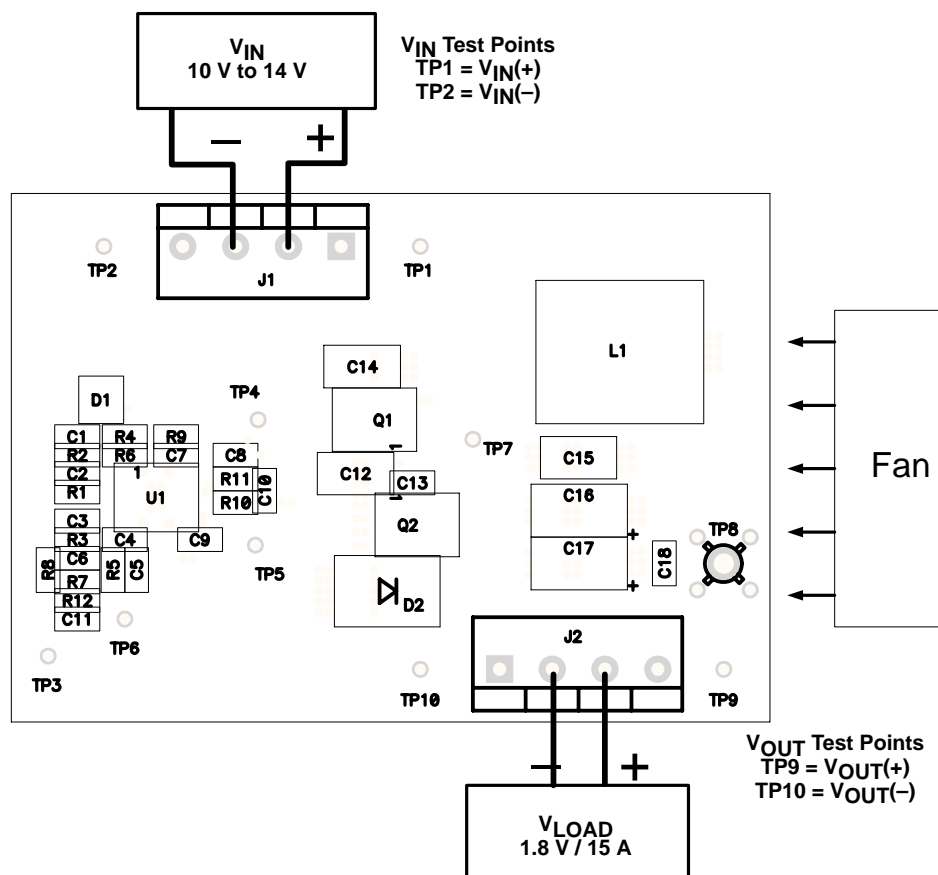

Figure 2. Test Setup
The output inductor L1 value used in the circuit of Figure 2 was selected from equation (4).
Figure 2 illustrates the basic test setup needed to evaluate the TPS40051EVM-001.